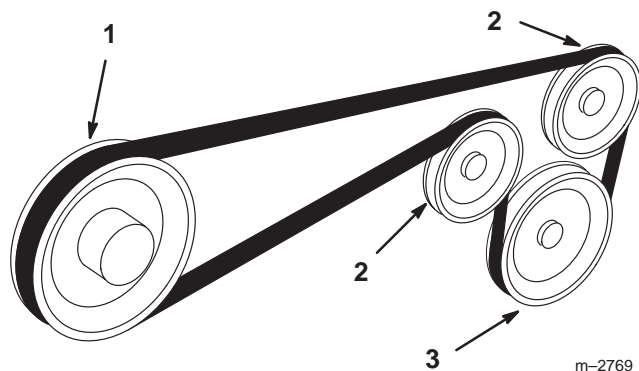

Figure 23
5. Rotate idler bracket to relax belt tension and slip belt off snowthrower pulley (Fig. 23),